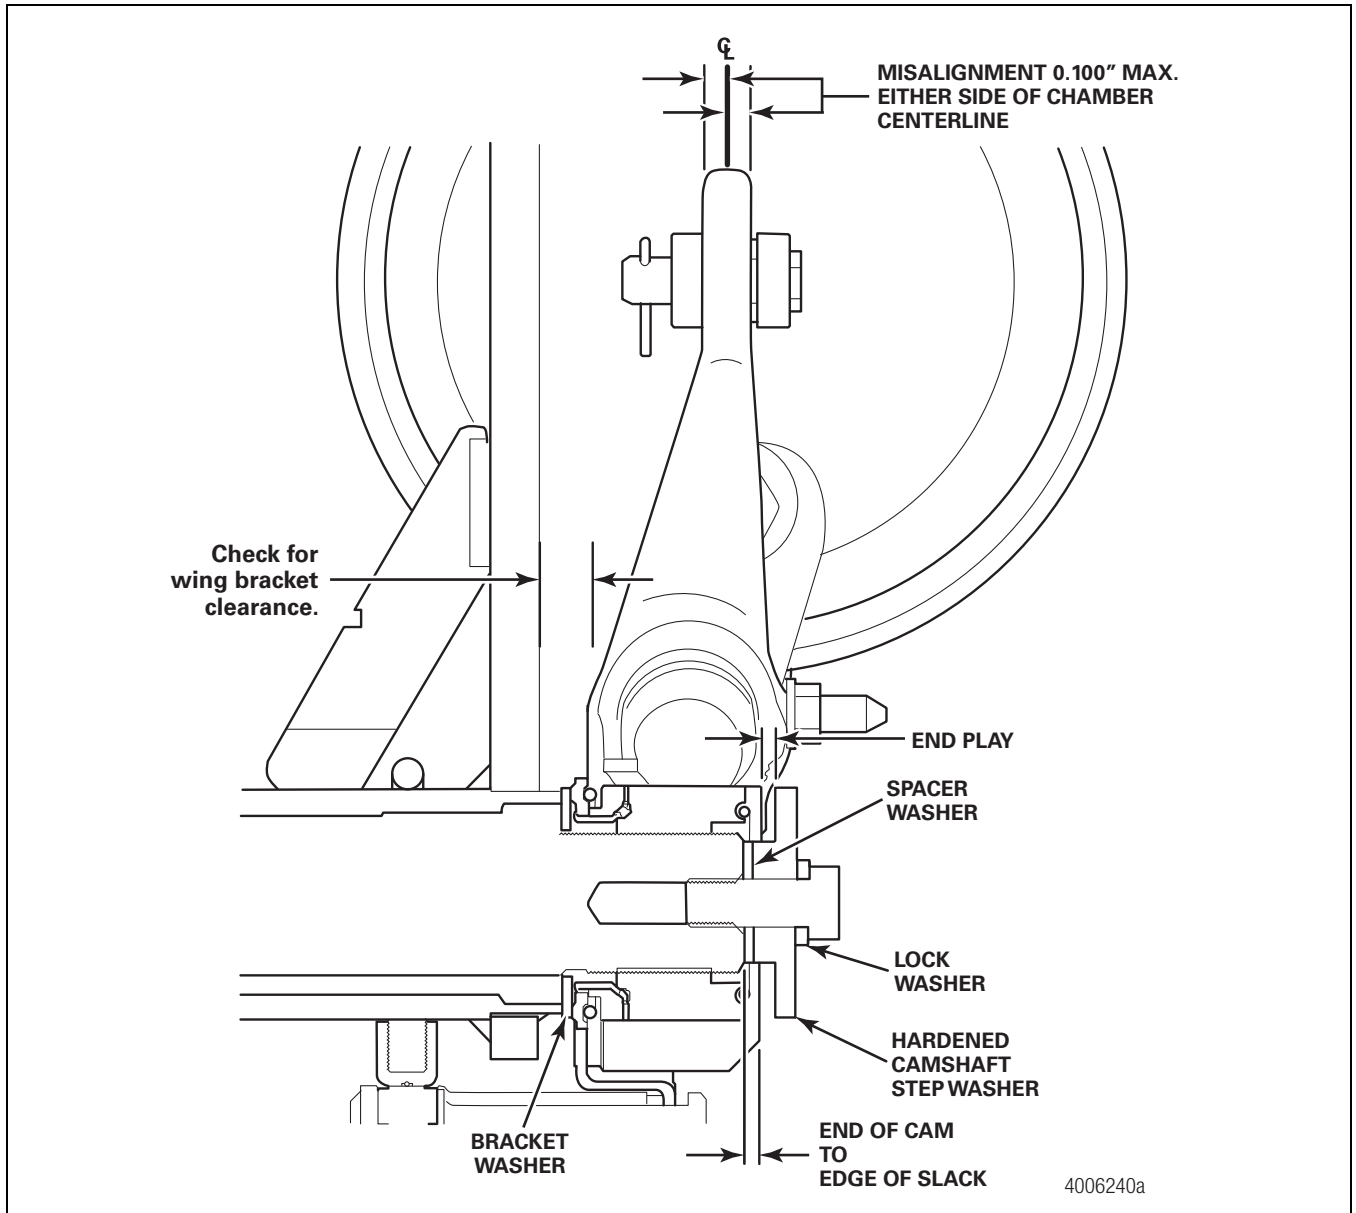

Figure 5.12
Refer to Figure 5.12 for measurement location and component description.
6. Actuate the brake by pulling on the slack adjuster to ensure the cam and roller move freely and that the shoes retract when the slack adjuster is released. Figure 5.12.